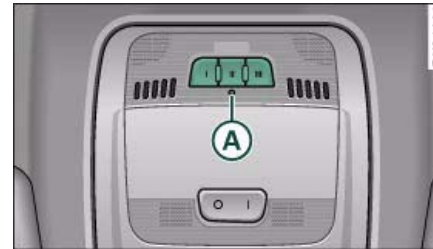

Fig. 197 Operating unit in headliner
⇒ *page 179*, fig. 197 until the indicator diode **(A)**
⇒ *page 179*, fig. 197 begins to flash after about 20 seconds. This procedure will delete the standard factory settings and does **not** need to be repeated when programming the other buttons.
- Watch HomeLink diode **(A)** ⇒ *page 179*, fig. 197. If the diode starts flashing rapidly and turns into a constant light after about 2 seconds, this indicates that the device you wish to operate (e.g. a garage door opener) is equipped with a rolling code.
- Press the programmed HomeLink button ⇒ *page 179, fig. 197*. The device assigned to that button (e.g. garage door) will be activated.
The HomeLink indicator diode ⇒ *page 179, fig. 197* will light up when you press the button. ■
- Press and hold down the two outer buttons until the indicator diode starts to flash ⇒ *page 179, fig. 197*.
- Press and hold down the selected button until the indicator diode ⇒ *page 179*, fig. 197 starts flashing slowly.